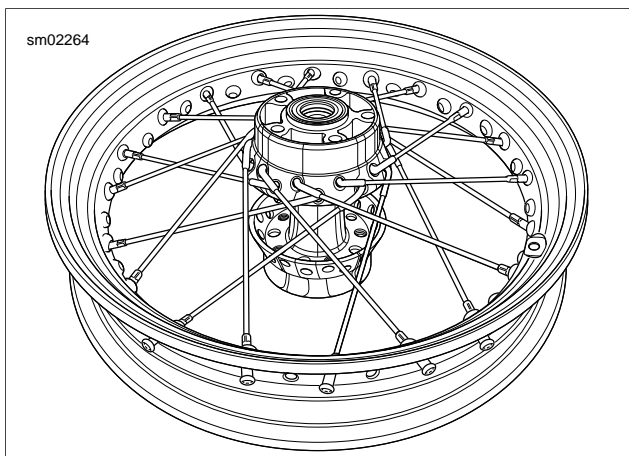

Figure 2-25. Brake Side Up: Top Row of Spokes Laced
6. See Figure 2-25. Install the remaining nine upper row spokes into every fourth remaining hole above the rim centerline.